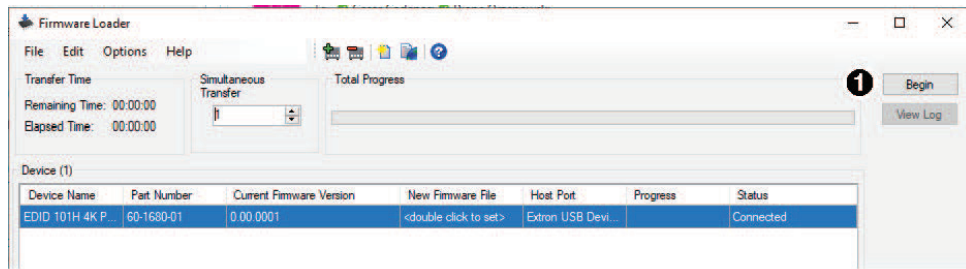

Figure 17. Firmware Loader Main Screen
1. Select **EDID 101H 4K Plus** in the device list and click **Begin** (see figure 17, ①).